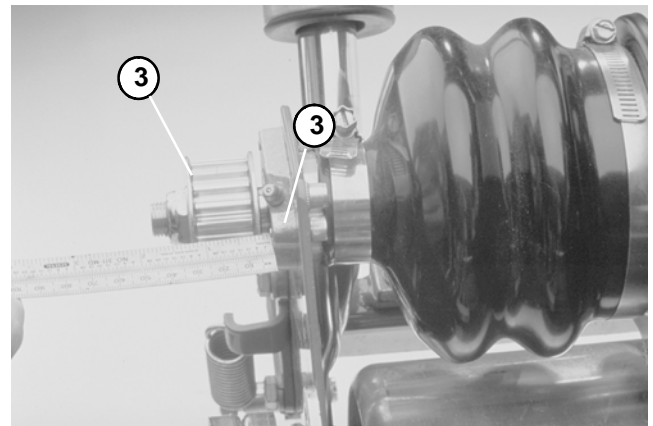

Figure 63
- A. Center both pulleys on the differential axles to obtain an equal distance between the side plates and pulleys (Fig. 63).